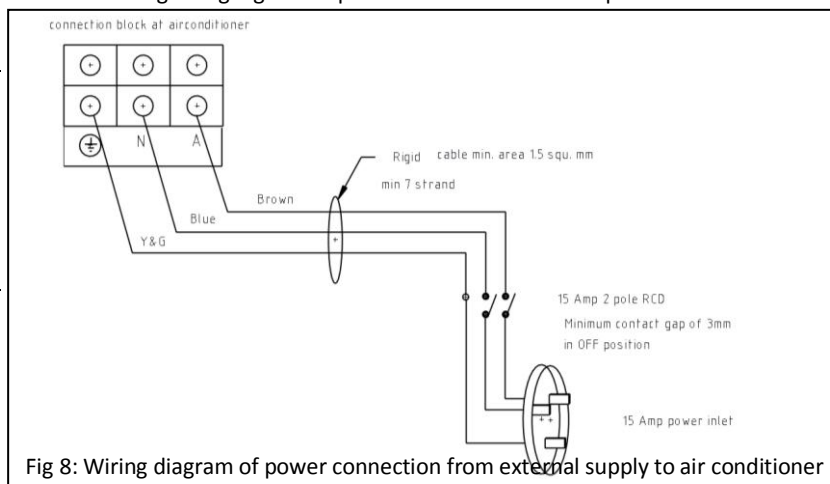

Fig 8: Wiring diagram of power connection from external supply to air conditioner
- Connect electrical supply to terminal strip. Note position of active, neutral and ground wires (Fig 8)